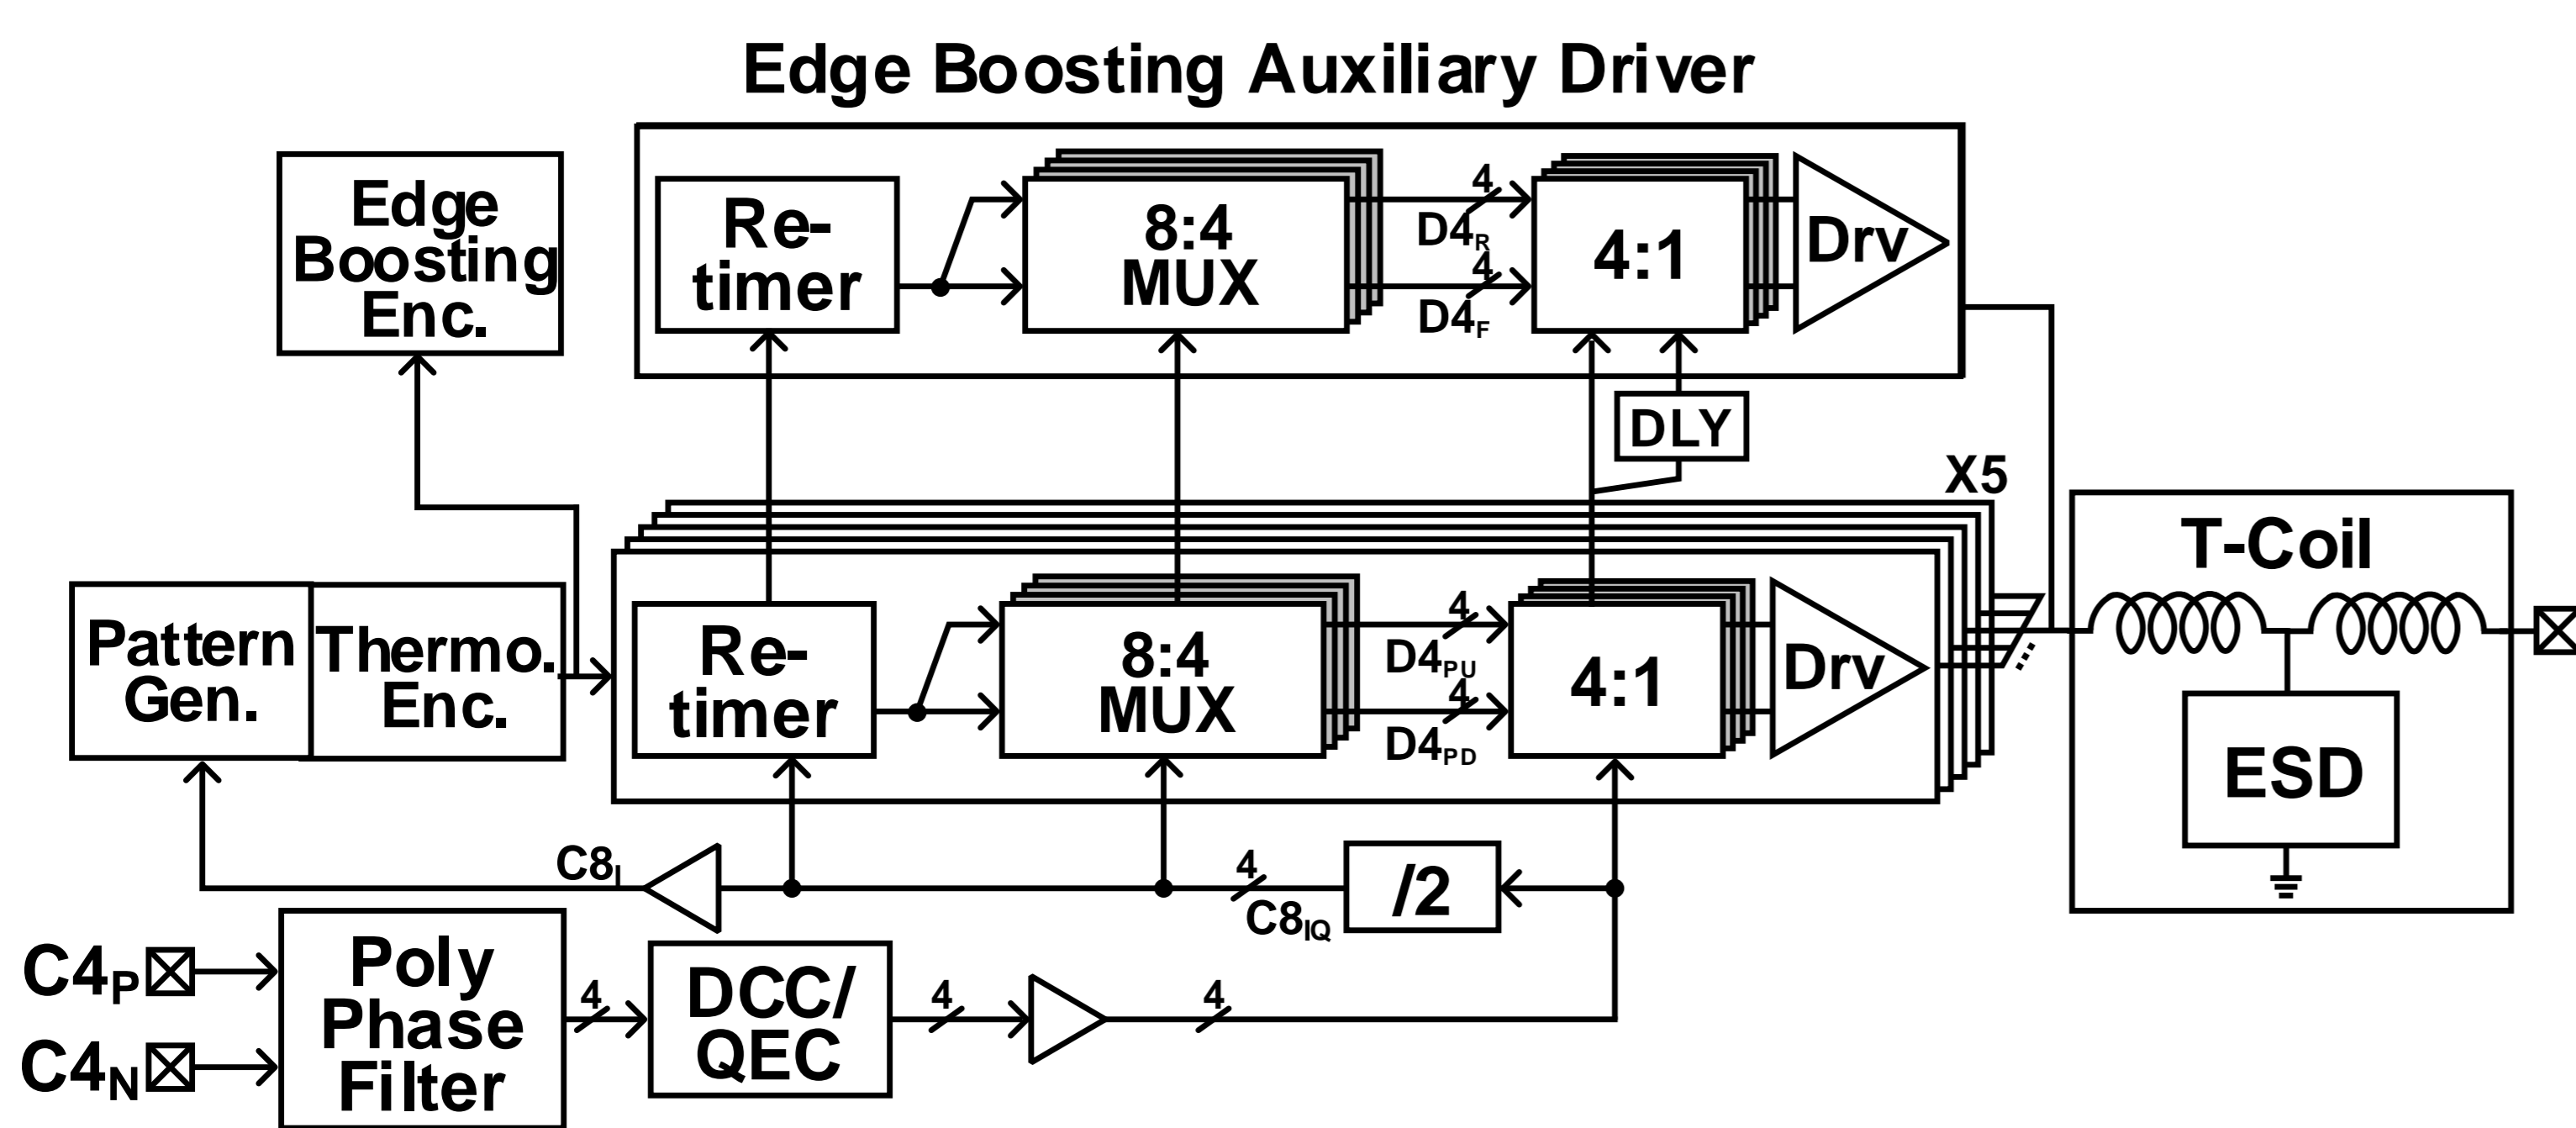

Fig 1. Transmitter overall block diagram
- ❖ Fig 1. shows the overall block diagram of transmitter